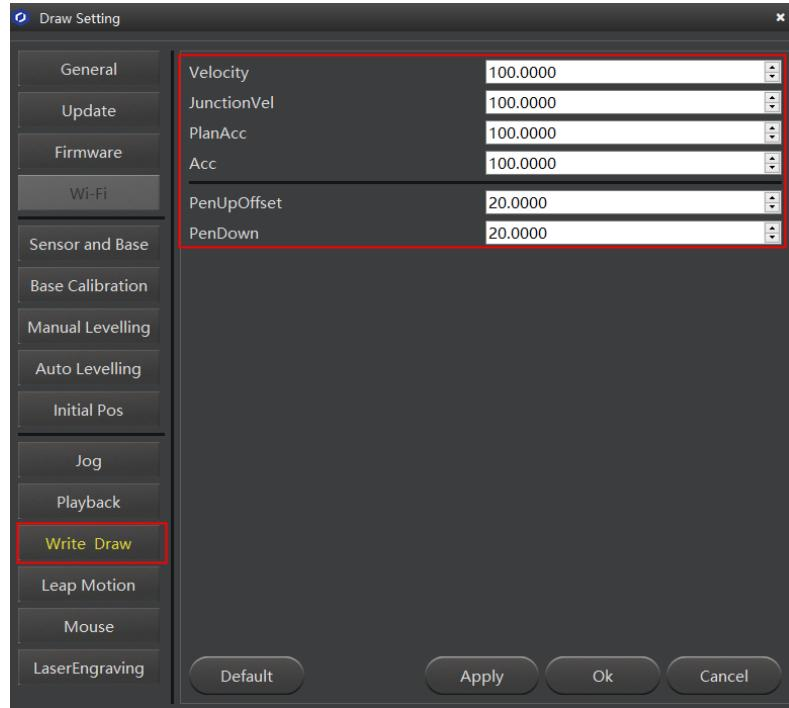

Figure 5.77 Setting the parameters of the Write & Draw function
2. Click **Write & Draw** to set the Dobot Magician's **Velocity** (mm/s), junction velocity (**JunctionVel**: mm/s), **PlanAcc** (mm/s2), acceleration (**Acc**: mm/s2), **PenUpOffset** (mm), **PenDown** (mm), as shown in Figure 5.77.